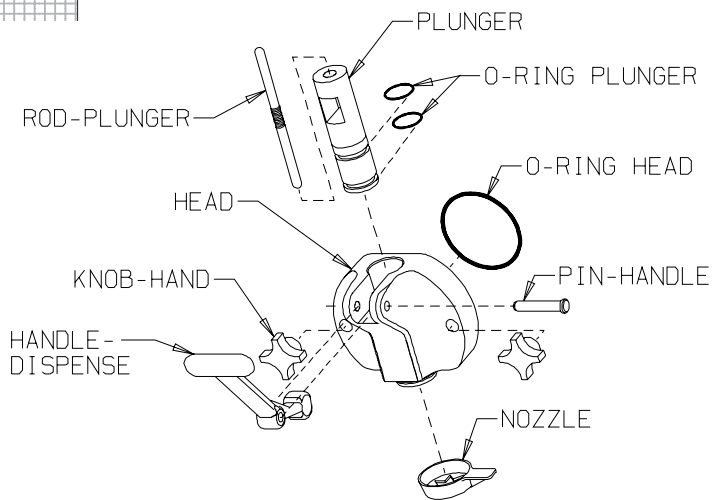

Figure 8-4 Assemble the head assembly
6. Install and lubricate the O-rings (see O-ring chart) on the dispensing plunger and insert into the head (figure 8-4).